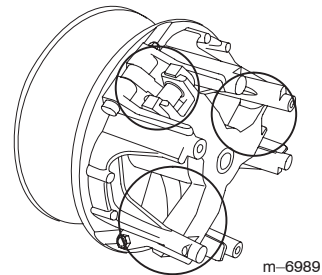

Figure 39
5. Lubricate the moving parts in the areas circled in Figure 39 using Toro Dry Lubricant Spray, available through your Authorized Toro Dealer or Distributor.